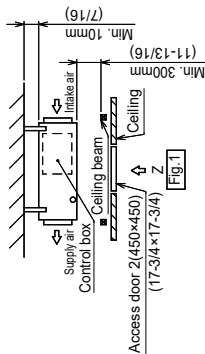

Fig. 1
- (1) When a space of 300mm or more is available below the unit between the unit and the ceiling. (Fig. 1)